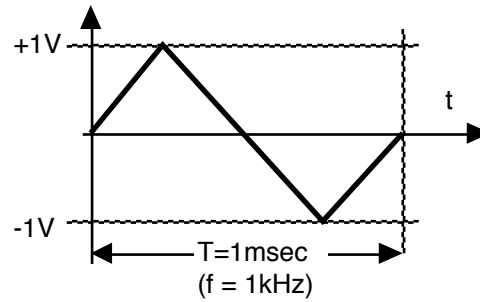

Figure 6.2
P1.3 If the differentiator V_{in} is a 1kHz, 1V peak triangle wave as shown in Figure 6.2, what will V_{out} be?
- 1.1 Record the output of your circuit when the input is the triangle wave of Figure 6.2. How does it compare with your prediction of prelab section 1.3? Explain.